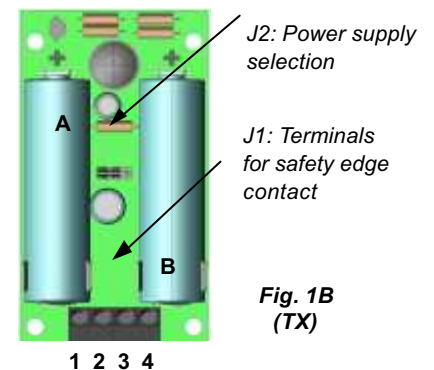

Fig. 1B
- Connect the wires as described in paragraphs 4 and 5 and select the source of power supply with the relevant jumper (J2, fig 1B):
- Connect the output contact of the safety edge (or other safety devices) to the relevant terminals (J1, fig. 1B). If this option is not used, don't remove the existing short-circuit jumper.